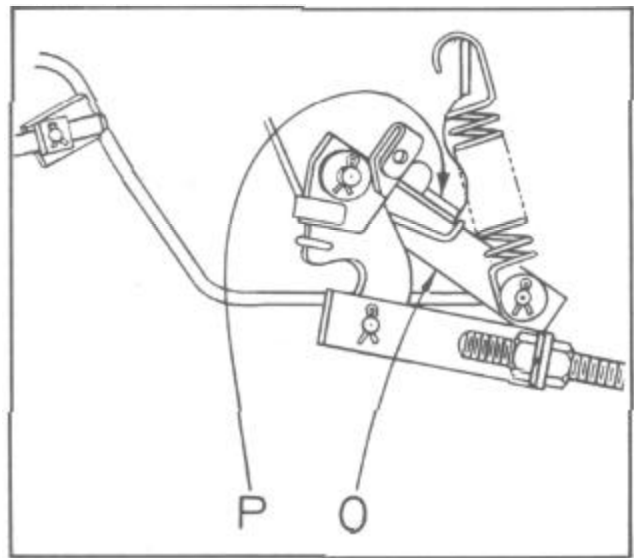
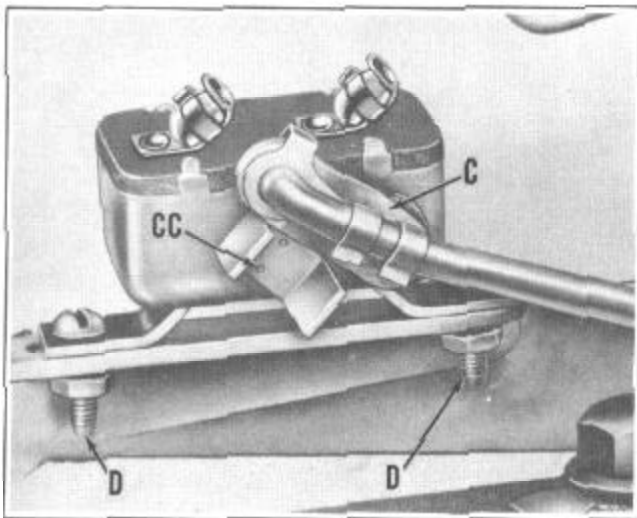

FIGURE 18
FIGURE 19
All linkage joints must work freely; check for binding at throttle cross rods, throttle bell-crank and clutch control unit bell-crank and lubricate as necessary. Depress control switch "off" button and open throttle slightly. Release very slowly and check to see that bell-crank arm (O) comes solidly against stop (P), Figure 18.
With the throttle bell-crank (0), Figure 18 against its stop (P) loosen screws (D) Figure 19 and slide the accelerator switch forward until switch arm (C) bottoms against stop (CC) on switch. Tighten screws (D). Figure 19.
Recheck by depressing the accelerator pedal and releasing pedal slowly. After releasing pedal both accelerator switch lever (C) Figure 19 and bell-crank lever (0) Figure 18 should solidly contact their stops.